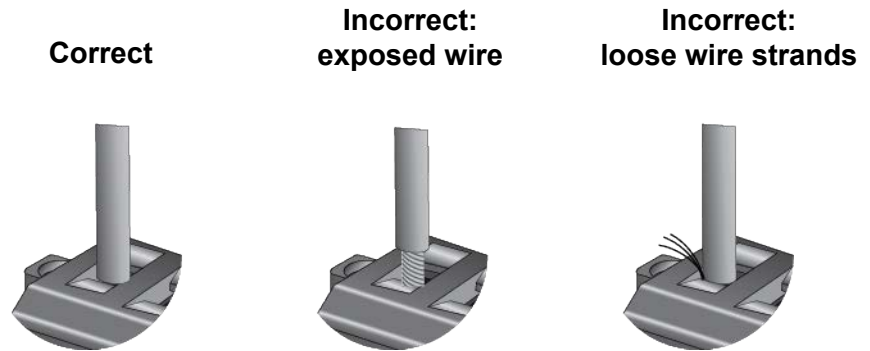

Figure 68. Verifying the DC Power Wire Installation
7. After attaching the wires, verify that there are no exposed wires or loose wire strands. Refer to Figure 68.